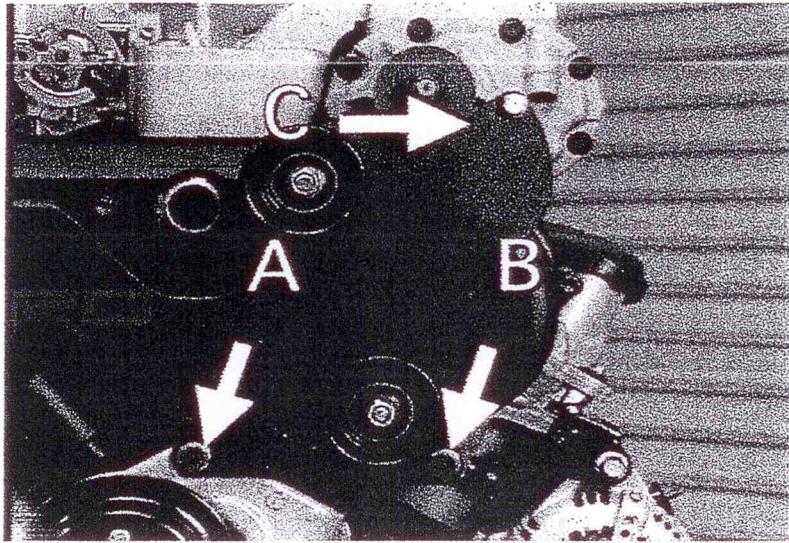

FIGURE 17
Remove the 10mm x 1.25 x 90mm long bolt from **Location A**, as shown in **Figure 17**.
32. Set the idler assembly in place on the front of the engine, as shown in Figure 17. Align the bolt holes as shown.
33. Install the supplied 10mm x 1.25 x 100mm bolt in Location A and the supplied 10mm x 1.25 x 80mm bolt and 10mm washer in Location B. Hand tighten each bolt for now. See Figure 17.